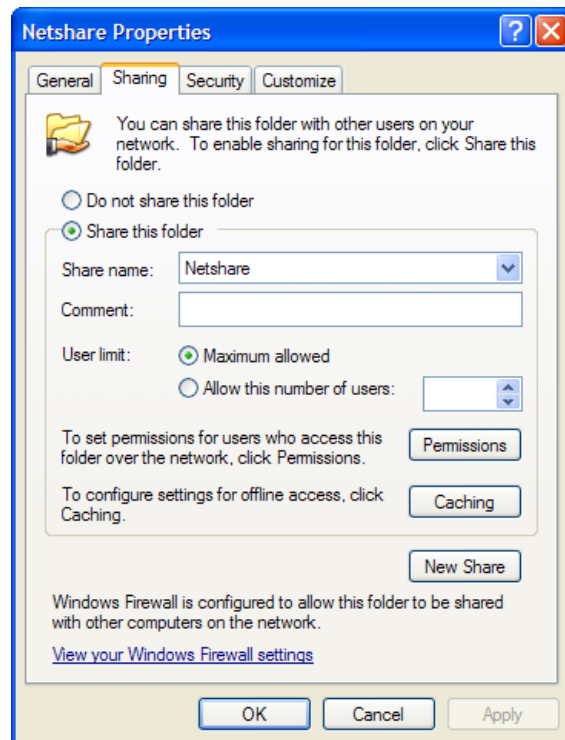
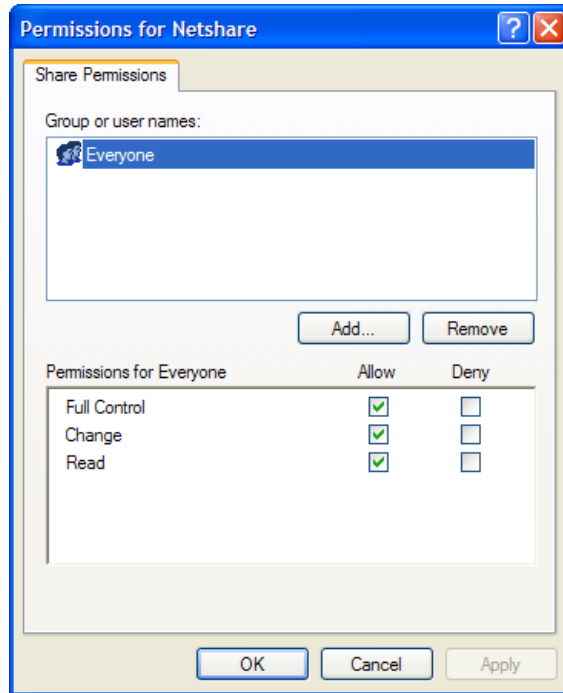

Figure D-8 Netshare Properties (Simple File Sharing OFF)
Figure D-9 Permissions for Netshare Dialog
If you have Simple File Sharing disabled, the following Netshare Properties dialog opens to the Sharing tab (Figure D-8).
5. If you see the Netshare Properties dialog from Figure D-8, select the **Permissions** button. The Permissions for Netshare dialog opens (Figure D-9).
Select the **Allow** checkbox for **Full Control** as shown in Figure D-9 so that all checkboxes for Allow are checked. Click **OK** to save changes and close the Permissions for Netshare dialog.